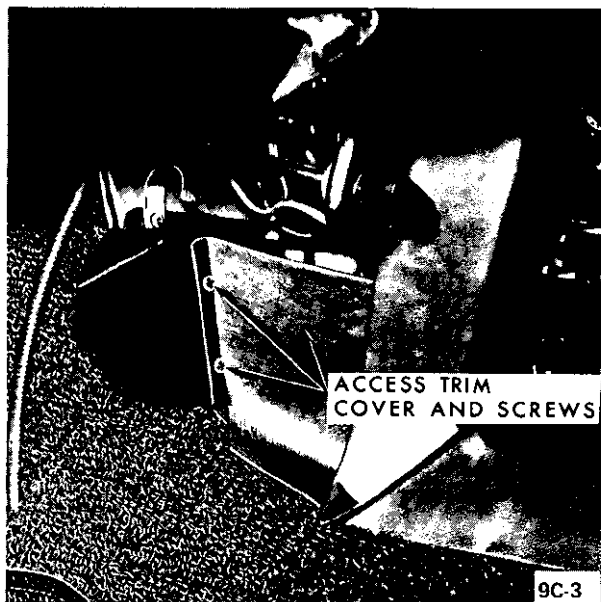

Figure 9C-3 Location of Access Trim Cover
2. Remove access trim plug from right side of console. See Figure 9C-1.